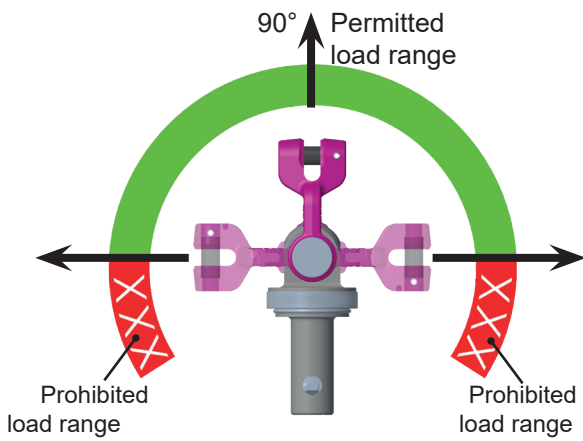
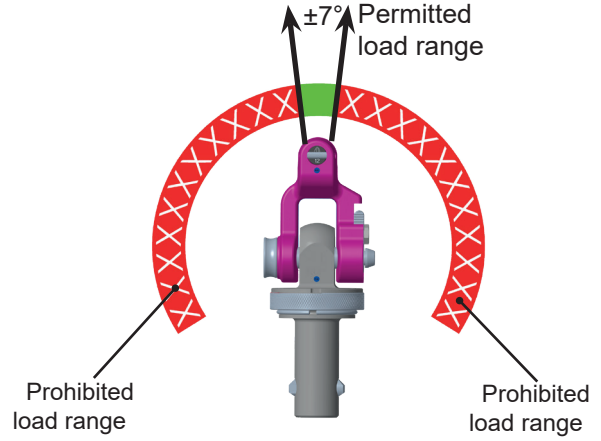

Fig. 17: Permitted load range in load ring plane
Fig. 18: Prohibited load transverse to load ring plane
- The WLL of the PIP-RAPIDO may not be under-shot by the WLL of the used shackle (for loading directions, see Fig. 17 / Fig. 18).